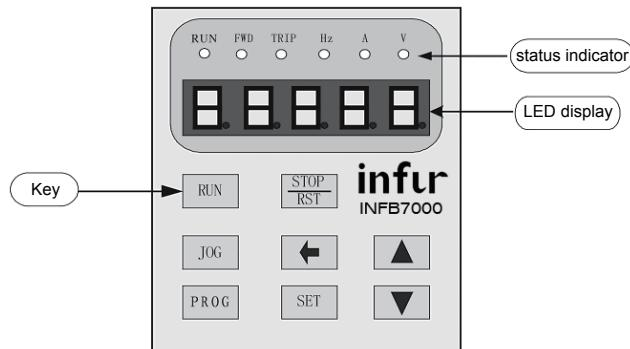

Figure 4-1
4.1. Panel Structure Description. Shown as figure 4-1